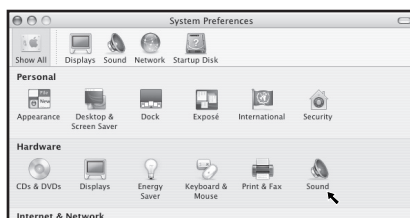

Figure 11
3. Next open the Sound preferences (Figure 11).